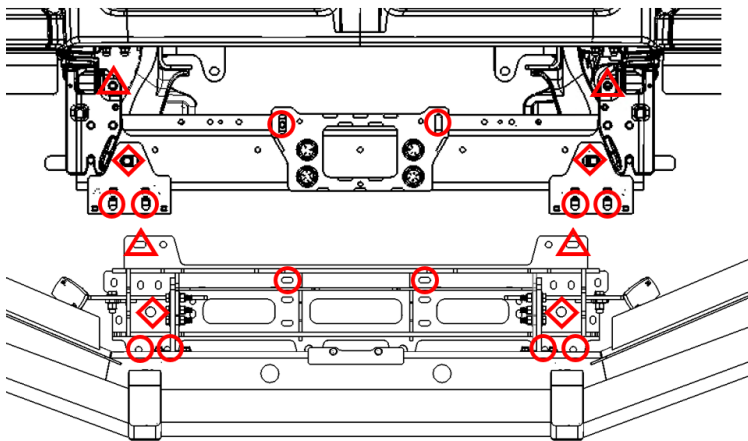

Figure 2e: Main Bracket Mounting – Truck with 6 Front Bumper Fasteners
5. Lift the Main Bracket and Truck Guard (opened) assembly and mount it to the truck. Fasten the Main Bracket to the HERD Submounts as shown in Figure 2e. The circle locations represent the locations to use the provided 1/2" Hardware and the diamond locations indicate the locations where the bracket is secured to the Tow Receiver Inserts using the provided 3/4" Hardware. For the triangle locations, use the OEM front bumper fasteners.